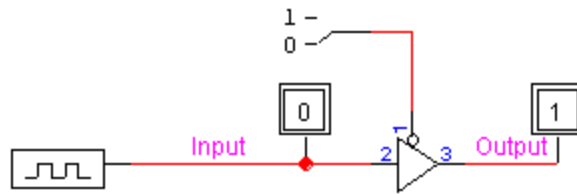

Figure 9 Tri-state with clock input
- Select a Clock device from the demolib.clf library and place it on the diagram as shown in figure 9.